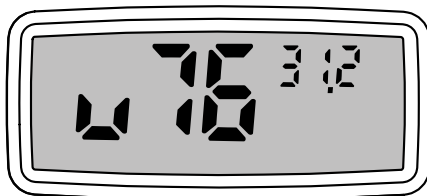

Figure 13 Calibration Mode screen
4. Press the II button (on the right) once to get the **Calibration Mode** screen (Figure 13).
Figure 13 shows that the PAWKIT is ready to have its calibration adjusted up for the 0.76 standard. The number in the upper right corner indicates the water activity measurement that the PAWKIT just read. Press the II button to scroll through the other selections. They are: u76, d76, u25, d25, Sto, u92, and d92. The u and d before each number stand for **up** or **down** adjustment for each standard. The numbers (25, 76, and 92) correspond to the water activity of a verification standard (0.76, 0.25, and 0.92 a_w). The Sto position stores a reading.